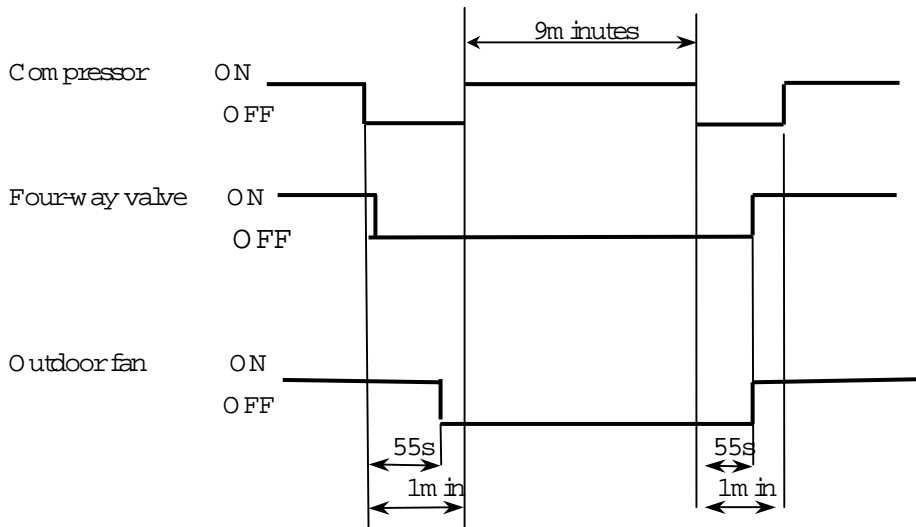

Fig 3
3. Sequence of defrosting actions: (to see Fig 3)